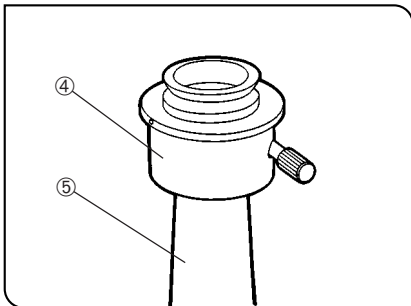

Fig. 7
1. Fit the adapter ④ onto the straight photo tube sleeve ⑤, then clamp with the index marking facing the front. (Fig. 7)